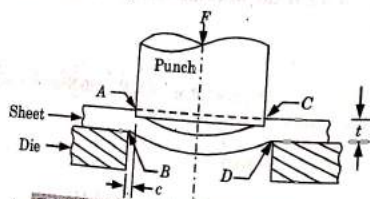

Fig. 1.25.1. Schematic illustration of the shearing process with a punch and die.
1. It is a process which involves cutting sheet metal by subjecting it to shear stresses, usually between a punch and a die as shown in Fig. 1.25.1.